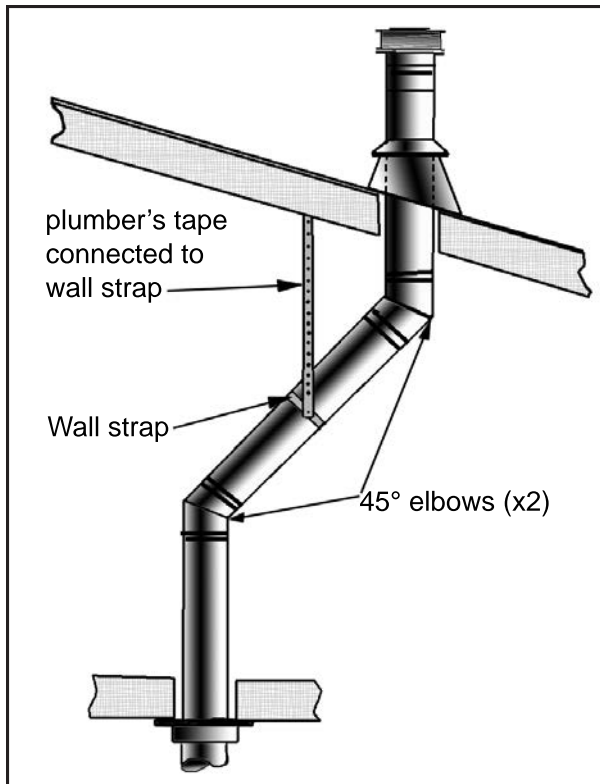

Figure 31: Use of Wall Straps
- (a) If an offset is necessary in the attic to avoid obstructions, it is important to support the vent pipe every 3 feet (91 cm), to avoid excessive stress on the elbows, and possible separation. Wall straps are available for this purpose (see Figure 31).